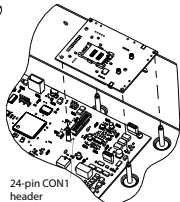

Figure 3: Installing the communicator
- Align the three holes on the communicator module with the plastic pegs on the alarm panel, ensuring the 24-pin connectors are aligned with matching pins on the panel. See Figure 3.